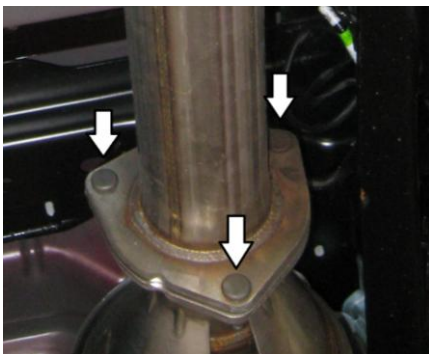

Figure 2
4. Loosen the three (3) nuts securing the extension pipe to the flange directly behind the exhaust filter and remove the extension pipe. **Refer to Figure 2.**